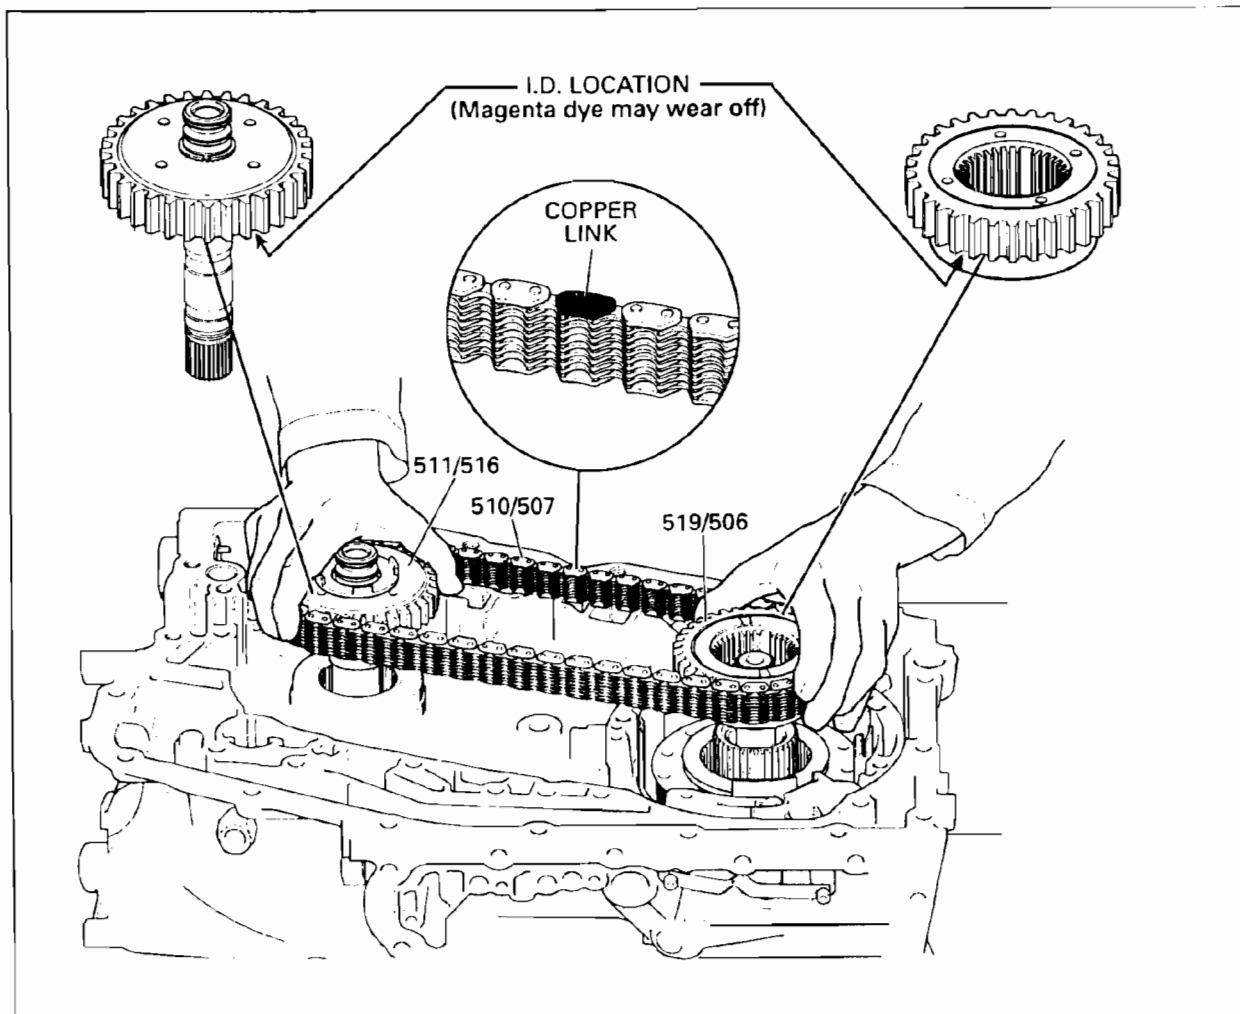

Figure 51
- (2) DRIVE SPROCKET ASSEMBLY - It was necessary to change the tooth geometry to accomodate the new "Rocker-Joint" chain and can be identified by the part number stamped on the washer surface area in Magenta (Red) ink. (See Figure 51).
- (3) DRIVEN SPROCKET ASSEMBLY - It was necessary to change the tooth geometry to accomodate the new "Rocker-Joint" chain and can be identified by the part number stamped on the washer surface area in Magenta (Red) ink. (See Figure 51).